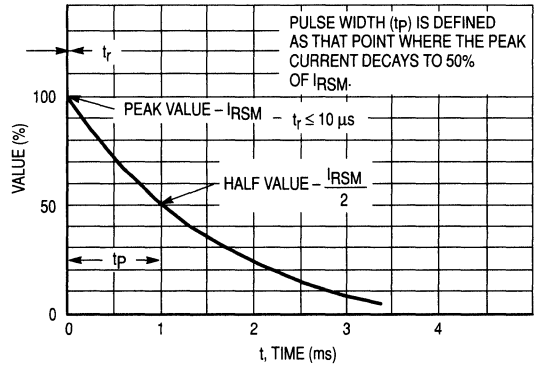
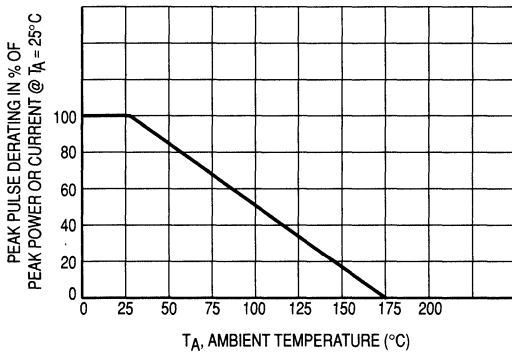

Figure 2. Pulse Waveform
Figure 3. Pulse Derating Curve
NOTES: 1. Nonrepetitive current pulse per Figure 2 and derated above  $T_A = 25^\circ\text{C}$  per Figure 3.
† Surge current waveform per Figure 2 and derate per Figure 3 of the General Data — 1500 Watt at the beginning of this group.
**$I_{PP}$**  Peak Pulse Current — See Figure 2